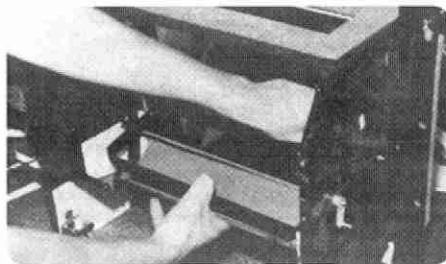

Figure 15
15. With the auxiliary temperature door installed to the center support panel, put the center support panel back into position. At the same time, make sure that the other end of the auxiliary temperature door shaft fits into the 1/4" hole drilled into the housing end panel created in step 9. Also make sure the temperature control door shaft goes back into its position in the center support panel (Figure 15).